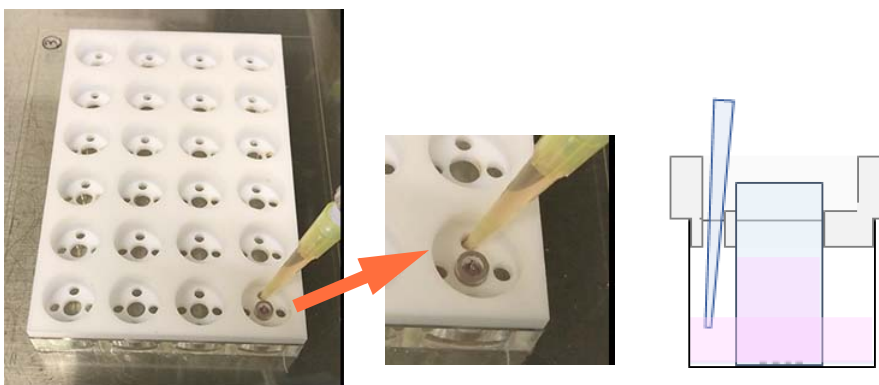

Figure 7. Add the **Neural Plating-XF Medium** to the well through one of the side holes.
5. Add 500 μ L of **Neural Plating-XF Medium** to the wells through the side-holes (Figure 7).